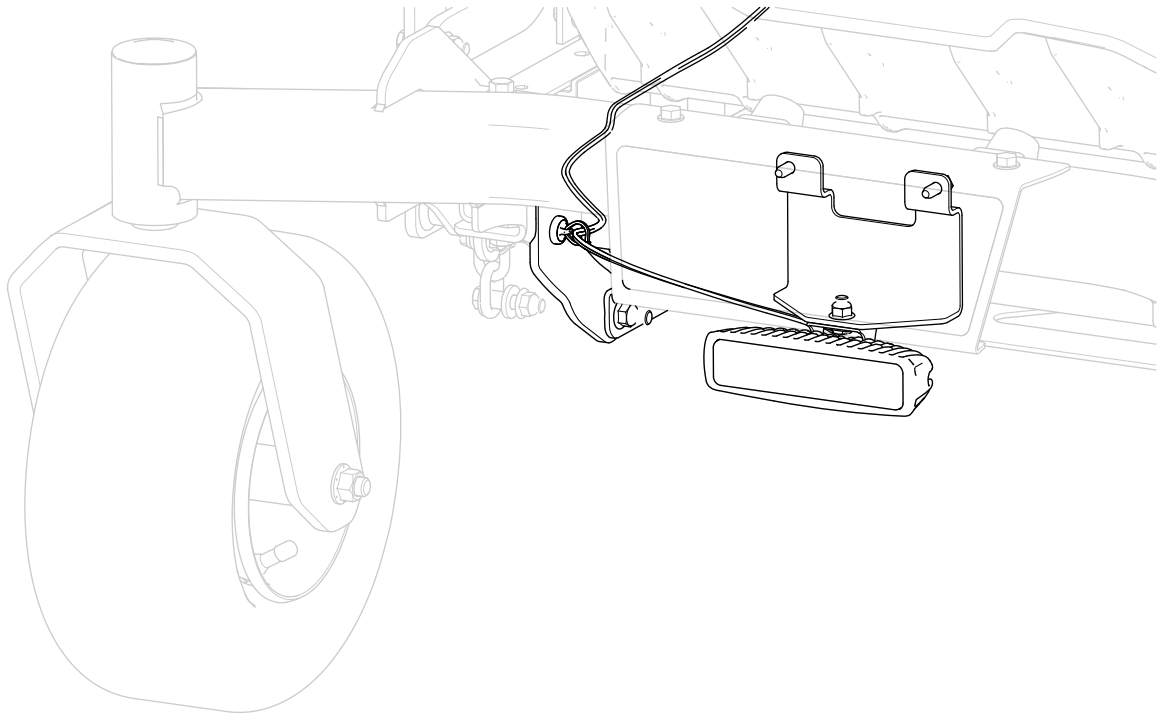

Figure 11
- From the front of the machine, route the wire harness along the right side of the machine and attach the magnetic tie-wrap mount to the right pivot plate (Figure 11).